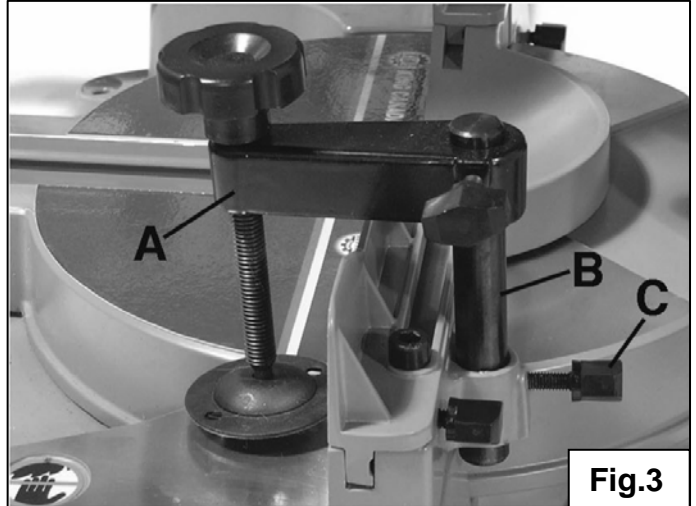

Fig.3
Position the vertical clamp (A) Fig.3 by inserting the clamps spindle (B) into one of the holes located on the cut-end guide, then tighten the knob (C) to fix the spindle.